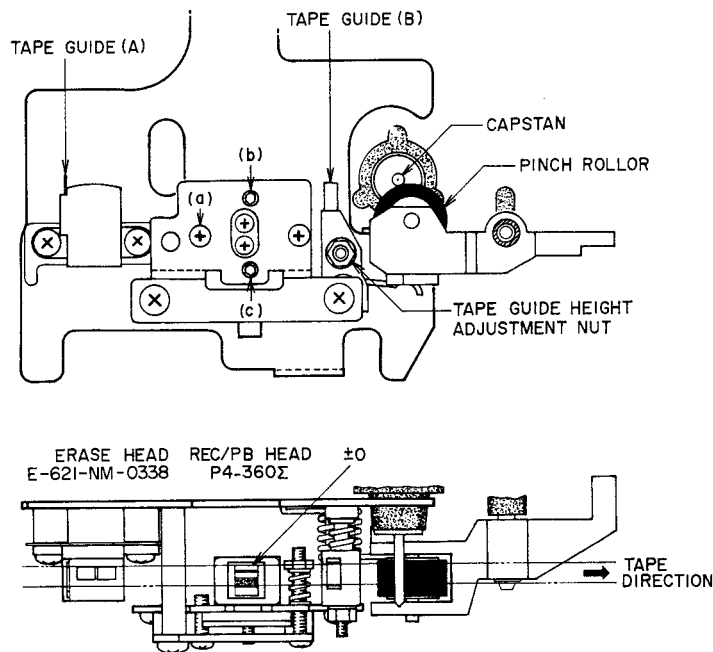

Fig. 13 Head Adjustment (GXC-704D)
(Refer to Figs. 13, 14)
- b) At playback mode, using the Tape guide (A) shown in Fig. 13 as standard for height, adjust tape guide (B) height with tape guide height adjustment nut so that the tape runs smoothly and does not catch on the tape guides.
- b) As shown in Fig. 13, adjust head height with
Adjustment (Refer to Fig. 13)